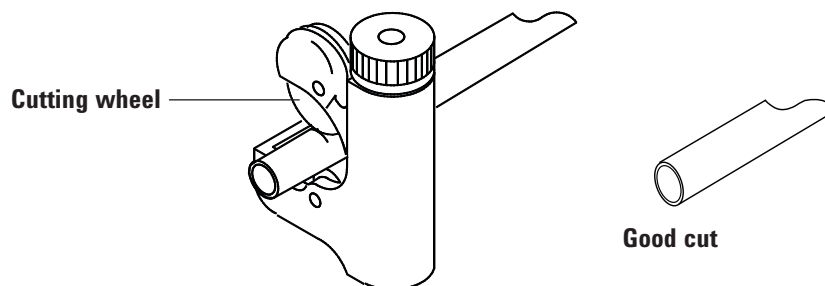

Figure 6 Typical tubing cutter
- 2 Cut the tubing to length with a tubing cutter (Figure 6).